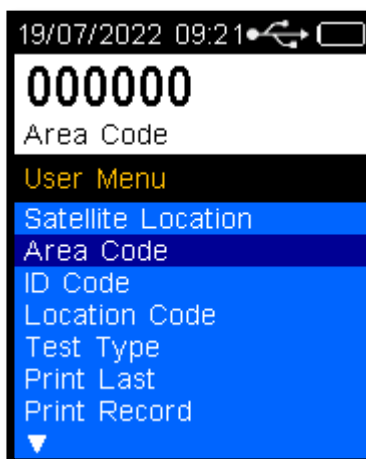

Figure 47 Area Code Displayed
- Press the down button and scroll to Area Code (Refer Figure 47).